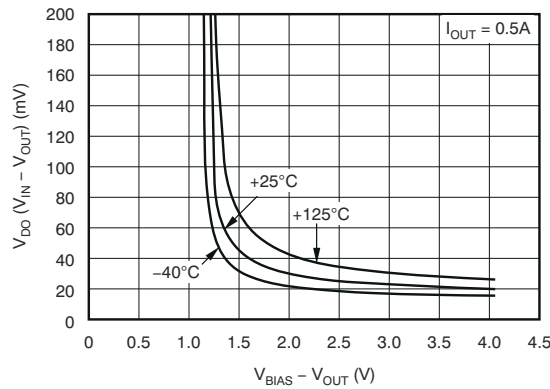

Figure 5-29. Dropout Voltage vs (V_{BIAS} – V_{OUT}) and Temperature (T_J)
- (1) Adjustable devices tested at 0.8 V; resistor tolerance is not taken into account.
- (2) Dropout is defined as the voltage from V_{IN} to V_{OUT} when V_{OUT} is 3% below nominal.
- (3) 1.62 V is a test condition of this device and can be adjusted by referring to Figure 5-29.